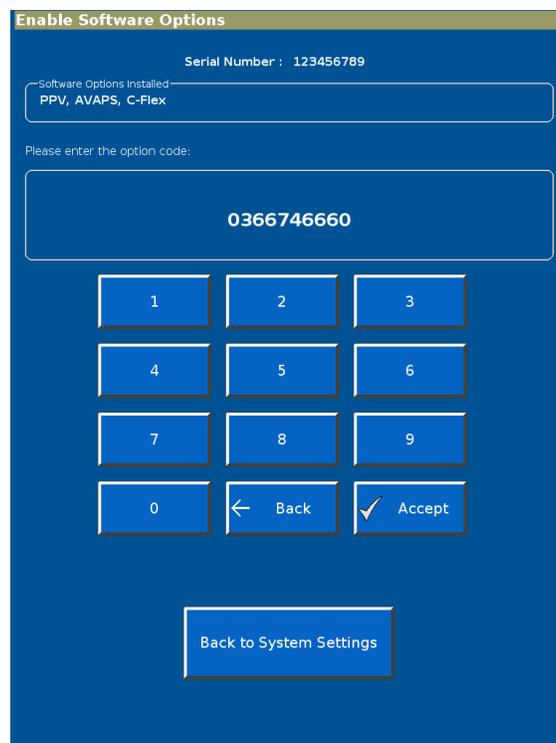

Figure E-8: Enable Software Options screen
1. From the **System Settings** screen, select **Software Options** to display the **Enable Software Options** screen (Figure E-8).